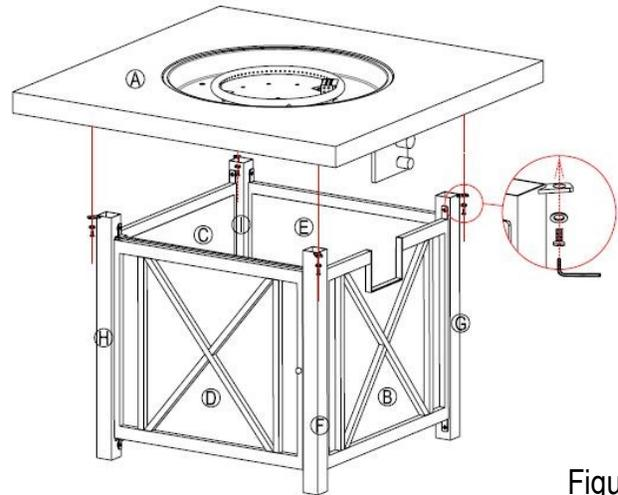

Figure 8
- Attach the assembled base to the Table Top Assembly (A) with Bolt (AA) and Washer (BB) by using the Hex Screw Driver (CC). Make sure the control panel just covers up the notch on the Right Panel (B), (see Figure 8). Then tighten all the screws completely.